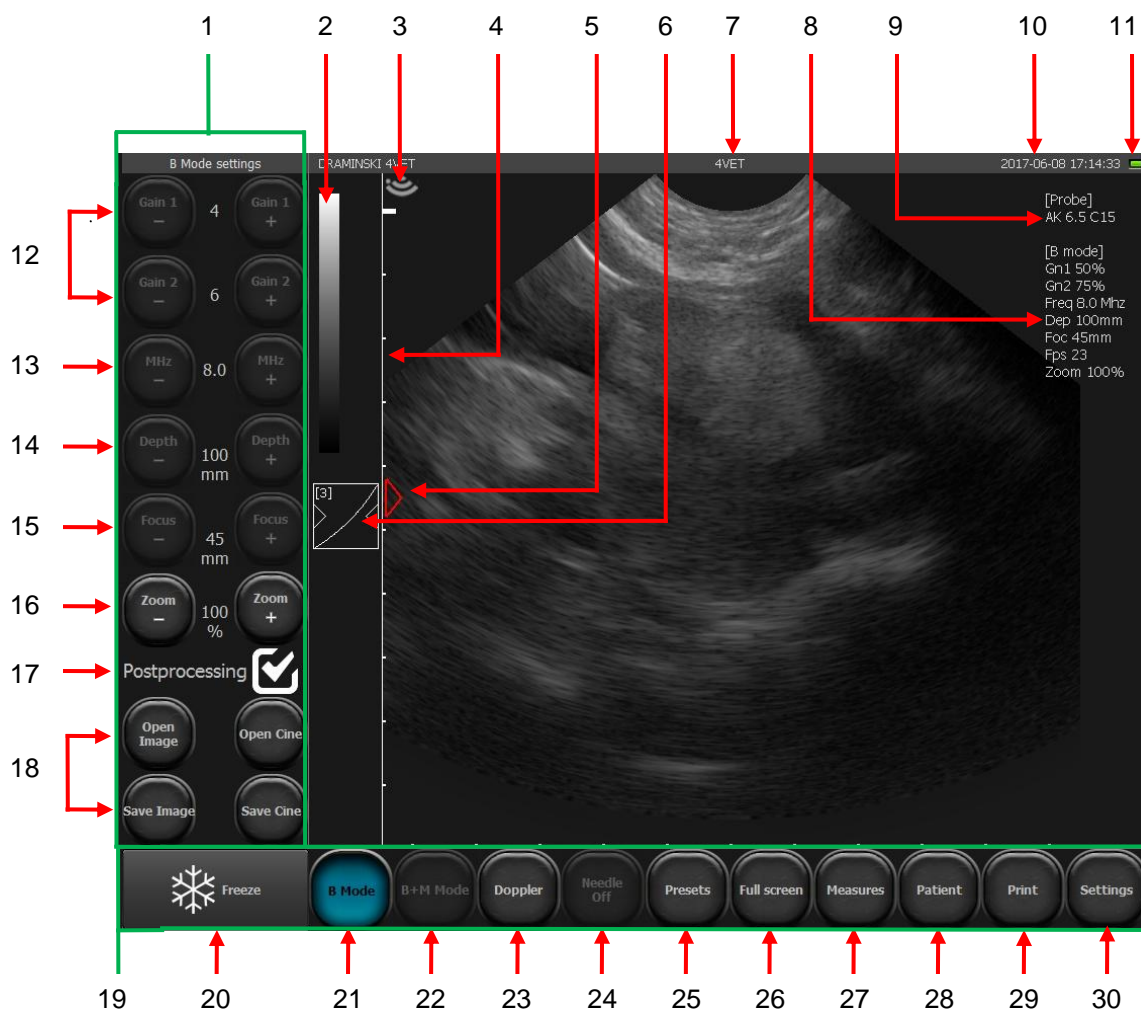

Fig. 11 Elements of the basic panel
5. Check if the connected probe is adequate with the symbol appearing on the screen (Fig. 11, no 9) and check if there is a response when you touch the head of the probe.
4. Check if the connected probe is adequate with the symbol appearing on the screen (Fig. 11, no 9) and check if there is a response when you touch the head of the probe.